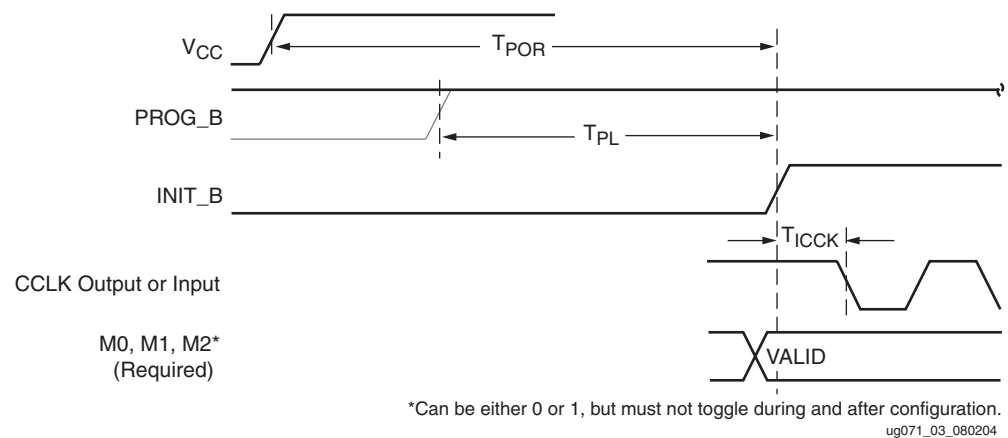

Figure 1-3: Device Power-Up Timing
Configuration memory is cleared sequentially any time the device is powered up, when the PROG\_B pin is pulsed Low, or when the JTAG JPROGRAM instruction is used. During this time, I/Os are placed in a high-Z state except for the dedicated Configuration and JTAG pins. INIT\_B is held Low by the device during initialization, then released after  $T_{POR}$  (Figure 1-3.) If the INIT\_B pin is held Low externally, the device waits at this point in the initialization process until the pin is released.
- The first is to hold the INIT\_B pin Low during initialization (Figure 1-3). This method only works if INIT\_B is prevented from going High. After INIT\_B goes High, configuration cannot be delayed by subsequently pulling INIT\_B Low.